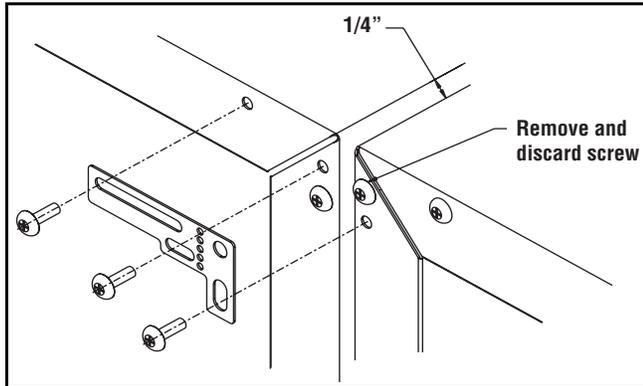

Figure 31
1. Remove screws shown (Figure 31).